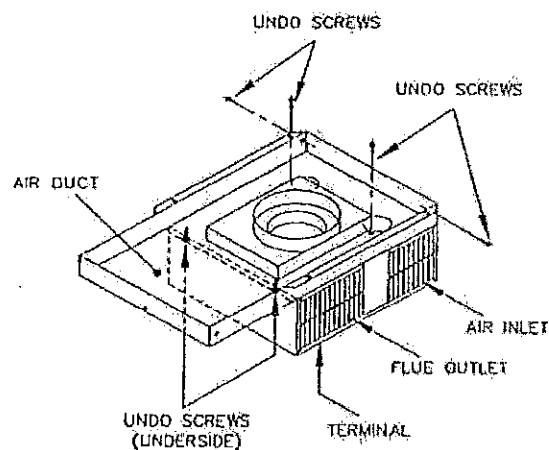

Fig. 2 – Removing the Air Duct from the Flue Terminal
4. Place up side down on a non-scratch surface, so as to not damage the terminal face, and undo the 2 remaining screws holding the terminal to the air duct (see fig 2)